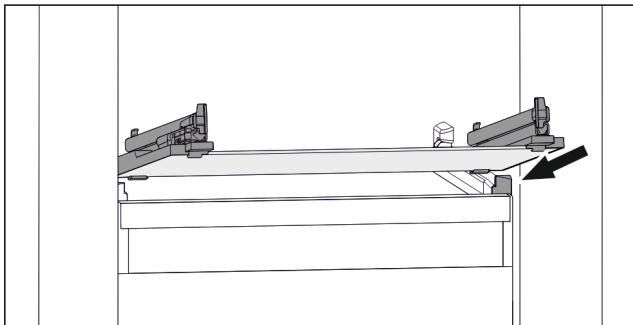

Fig. 47 Example illustration of glass shelf
- ▶ Position glass shelf at an angle behind the stoppers. (see Fig. 47)